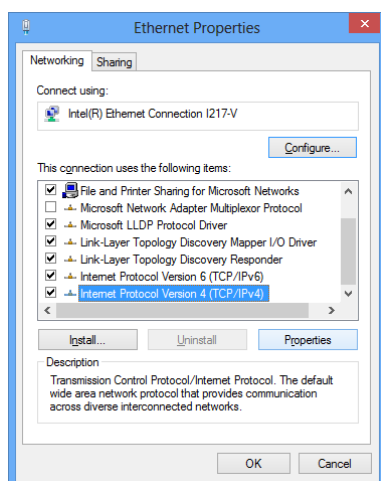

Fig. 5.9: Windows "Ethernet Properties"
4. Click on "Internet Protocol Version (TCP/IPv4)" and select "Properties" (**Fig. 5.9**).